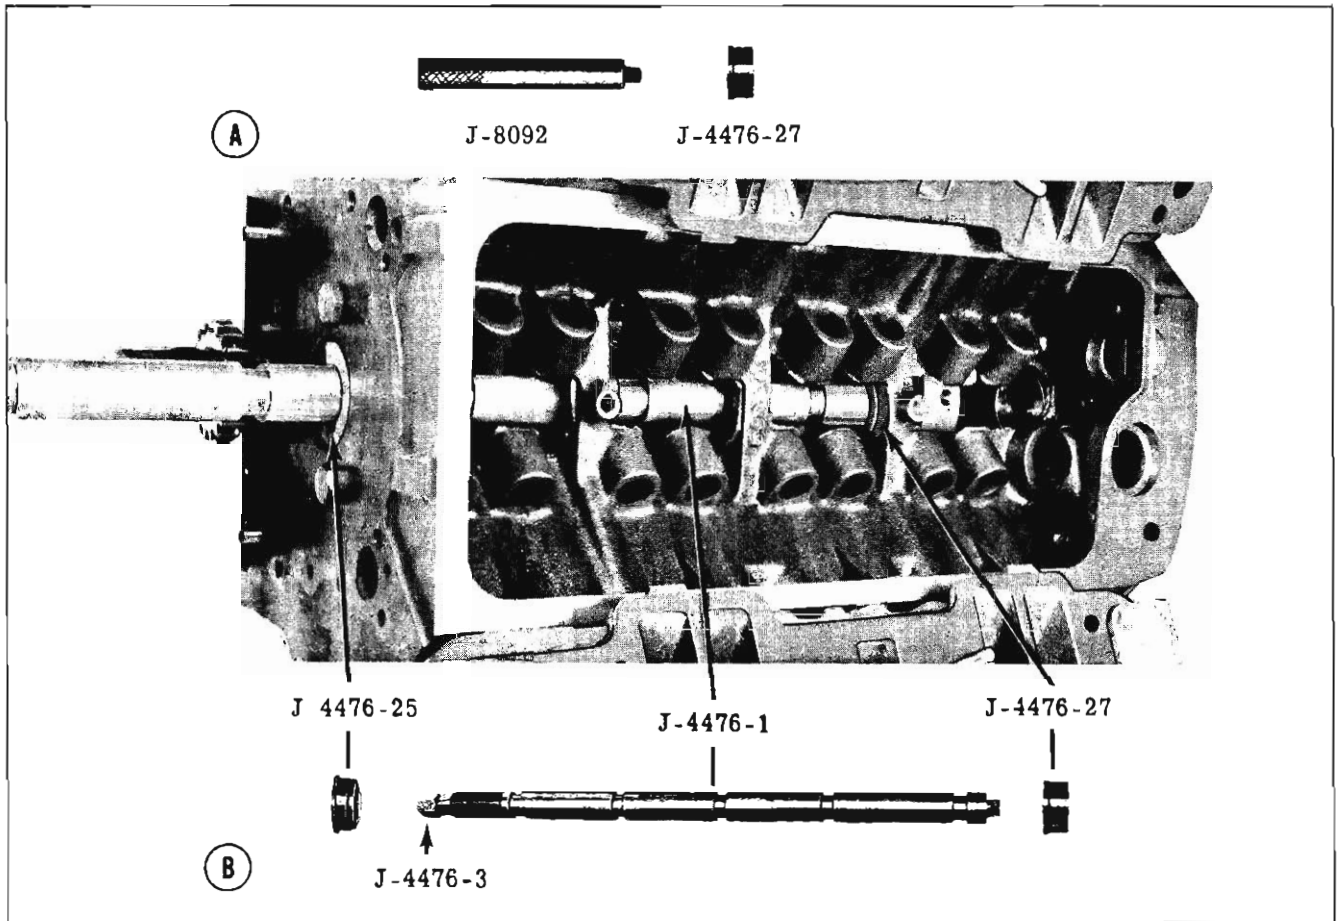

Fig. 3-40 Removing No. 4 Camshaft Bearing (Typical of 1, 2 & 3)
1. Assemble tools as shown in Fig. 3-40 (Inset "A") and remove No. 1 camshaft bearing by driving it rearward. Remove old bearing from J-4476-27 and repeat procedure on No. 2 bearing.
2. Assemble tools as shown in Fig. 3-40 (Inset "B") and remove No. 3 bearing. Remove old bearing from J-4476-27 and repeat procedure on No. 4 bearing.